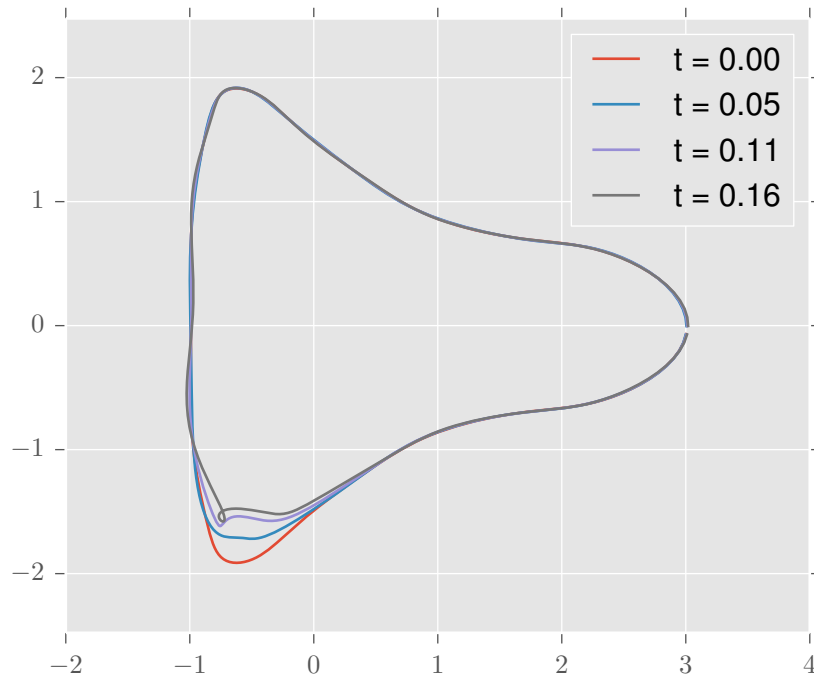

FIGURE 1
**Point Collision Problems.** Unfortunately, as simple as it is to model the surface with Fourier series, it is very difficult to use for modeling the changing surface. As can be seen in Figure 1, the process works well for a short time period, but then sharp points start to form.